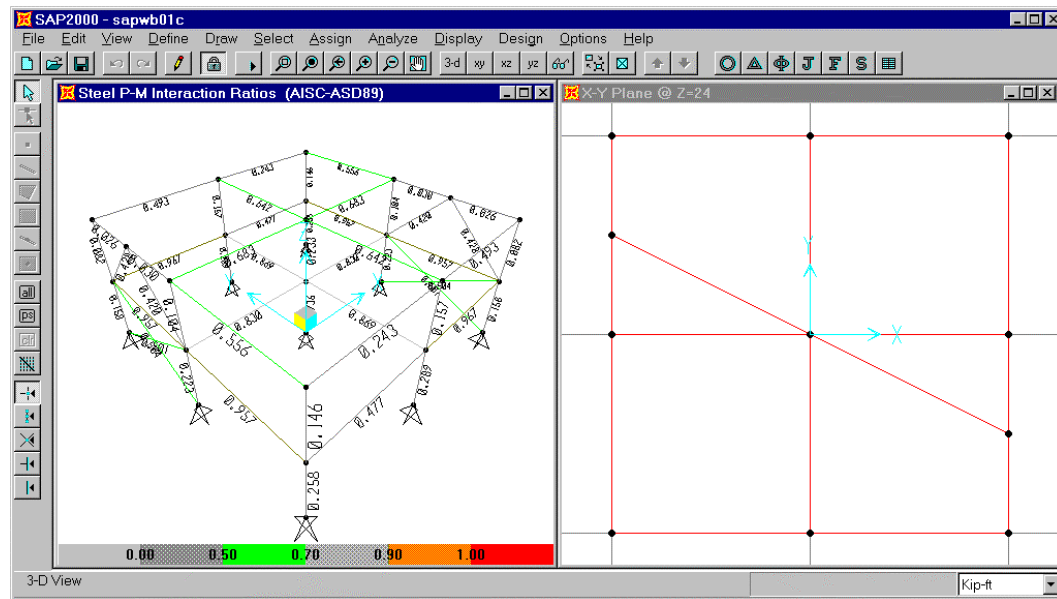

Figure C-20: Final Member Stress Ratios
16. When the design is complete, the member stress ratios are displayed on the structure as shown in Figure C-20.